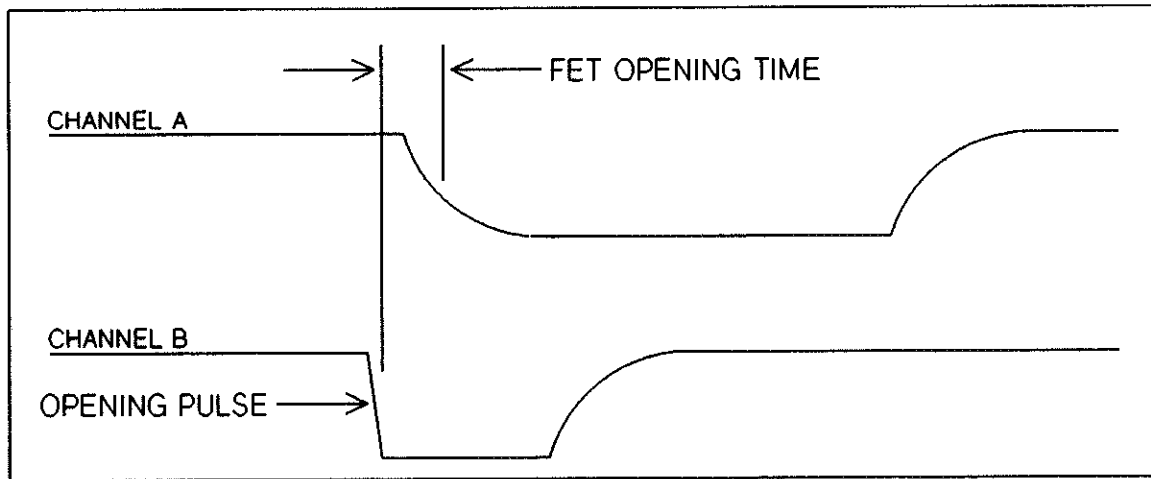

Figure 10-14 HP 44711A Opening Time
3. Rotate the DELAY SWEEP dial to the minimum position. Select the DELAYED sweep mode on the scope. Slowly rotate the DELAY SWEEP dial clockwise while observing the displayed waveforms. The Channel B waveform is the OPENING pulse. The Channel A waveform is the +5V supply as switched by the relays. As the DELAY SWEEP dial is rotated, each channel switch and the associated OPENING pulse will come into view. The FET opening time is the time from the falling edge of the OPENING pulse to the falling edge of the Channel A waveform. This time must be less than 1.2 μ seconds. The opening time is illustrated in Figure 10-14.